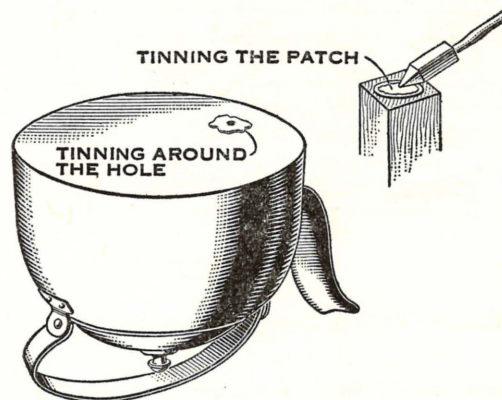

Fig. 97—Both the patch and the area around the hole must be tinned
5. Tin one side of the patch, and the surface of the utensil around the hole which is to be repaired. This is done by melting solder on the point of a tinned soldering copper, and flowing it over the surface of the metal. This leaves enough solder on the surface of the metal to make the patch stick. (See Fig. 97.)